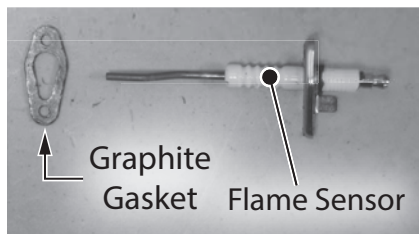

Figure 75 - Install flame sensor and graphite gasket
- 8 Locate the new flame sensor and graphite gasket provided in the kit. Orient the graphite gasket as shown in Figure 75 and install to flame sensor assembly.